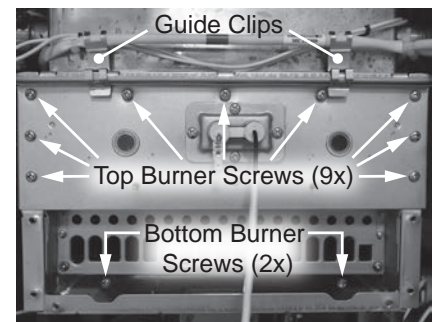

Figure 127 - Burner screws and guide clips
- 16 Locate the overheat cutoff fuse (OHCF) above the burner assembly. Remove the two guide clips from the burner assembly routing the OHCF around the primary heat exchanger. See Figure 127.
- 17 Locate the two bottom screws securing the burner assembly to the water heater as shown in Figure 127. Use a 12" magnetized Phillips screwdriver to remove screws. Place screws aside in a safe place for reinstallation.
- 18 Locate the nine top screws securing the burner assembly to the water heater as shown in Figure 127. Use a 12" magnetized Phillips screwdriver to remove screws. Place screws aside in a safe place for reinstallation.